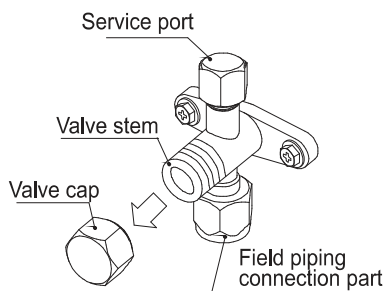

Fig.1
- The following figure shows the names of each component required to process the stop valve (Fig.1). The stop valve is closed before installation.
- (1) Open the stop valve: Insert the hexagon wrench into the valve stem, rotate the valve stem counterclockwise, and stop rotating when the valve stem can no longer rotate. At this point, the valve has already opened.
- (2) Close the stop valve: Insert the hexagon wrench into the valve stem, rotate the valve stem clockwise, and stop rotating when the valve stem can no longer rotate. At this point, the valve has already closed.